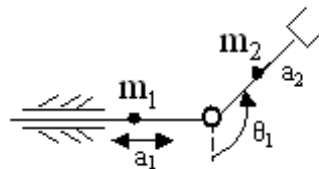

Figure 5
- Find the dynamic model of the two link planar arm with a prismatic joint and revolute joint as shown in figure 5 by using the recursive Newton-Euler algorithm. [16]